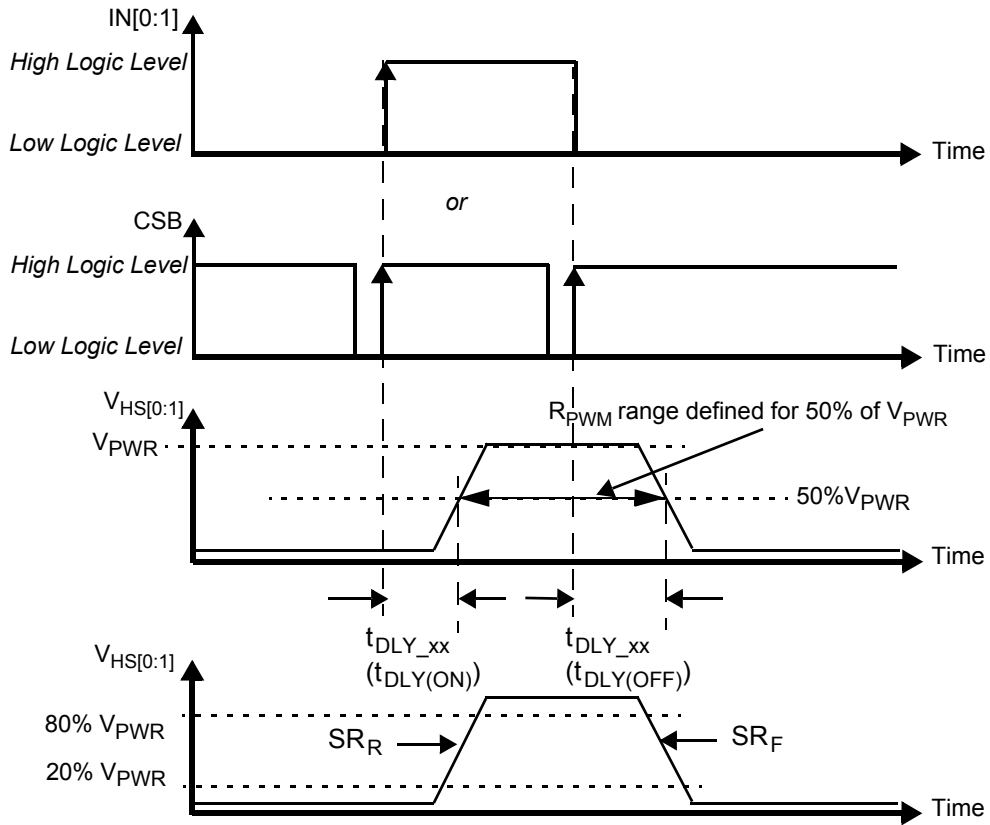
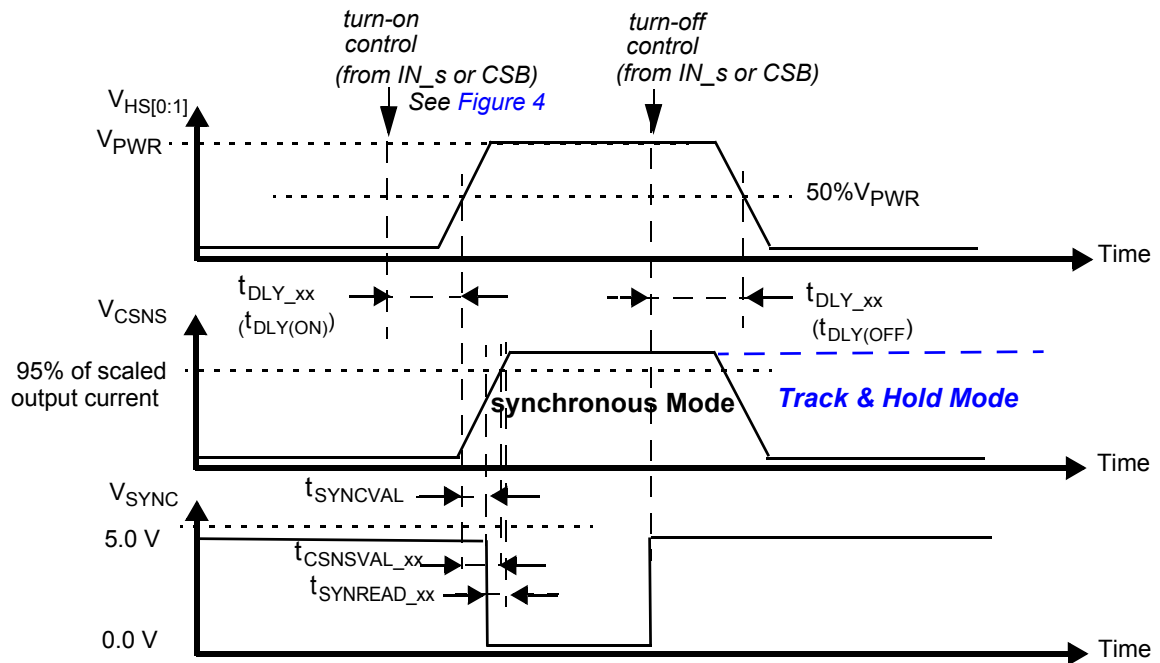

Figure 4. Output Voltage Slew Rate and Delay
Figure 9. Synchronous & Track-and-Hold Current Sensing Modes: Associated Delay & Settling Times
- Rising and Falling edge slew rates specified for a 20 to 80% voltage variation on a 10 Ω resistive load (see Figure 4).
- Time required to switch off the channel after detection of overtemperature (OT), overcurrent (OC), SC or UV error (time measured between start of the negative edge on the FSB pin and the falling edge on the output voltage until $V(\text{HS}[0:1]) = 50\%$ of V_{PWR}).
- Settling time ($= t_{CSNSVAL_XX}$), SYNC output signal delay ($= t_{SYNCVAL_XX}$) and Read-out delay ($= t_{SYNREAD_XX}$) are defined for a stepped load current using a 10 Ω resistive load for CSNS_RATIO_s = 0. (see Figure 9 and Output Current Monitoring \(CSNS\)).
The CS pin allows independent current monitoring of channel 0 or channel 1 up to the steady-state overcurrent threshold. It can also be used to sense the device temperature. The different functions are selected by setting bits CSNS1_en and CSNS0_en to the appropriate value (Table 22). When the CSNS pin is sensed during switch-off in the (optional) track & hold mode (see Figure 9), it outputs the scaled value of the load current as it was just before turn-Off. When several devices share the same pull-down resistor, the CSNS pins of devices, the current of which is not monitored, must be tri-stated. This is accomplished by setting CSNS0_en = 0 and CSNS1_en = 0 in their GCR register (Table 11). Settling time ($t_{CSNSVAL_XX}$) is defined as the time between the instant at the middle of the output voltage’s rising edge ($HS[0:1] = 50\%$ of V_{PWR}), and the instant at which the voltage on the CSNS pin has settled to $\pm 5.0\%$ of its final value. Anytime an overcurrent window is active, the CSNS pin is disabled (see Overcurrent Detection on Resistive and Inductive Loads). The current and temperature sensing functions are unavailable in Fail-safe mode and in Normal mode when operating without the V_{DD} supply voltage. In order to generate a voltage output, this pin requires a pull-down resistor ($R(CSNS)=1.0\text{ k}\Omega$ typ. and $470 < R(CSNS) < 10\text{ k}$). When the current sense resistor connected to the CSNS pin is disconnected, the CSNS voltage is clamped to $V_{CL(CSNS)}$. The CSNS pin can source currents up to about 5.6 mA.
To synchronize current sensing with an external process, the SYNC signal can be connected to a digital input of an external MCU. An open-drain pull-down on SYNC indicates that the current sense signal is accurate and ready to be read. The current sense signal on the CSNS pin has the specified accuracy $t_{SYNREAD_XX}$ seconds after the falling edge on the SYNC pin (Figure 9) and remains valid until a rising edge is generated. The rising edge that is generated by the SYNC pin at the turn-OFF instant (internal or external) may also be used to implement synchronization with the external MCU. Parameter t_{SYNVAL_XX} is defined as the time between the instant at the middle of the output voltage rising edge ($HS[0:1] = 50\%$ of V_{PWR}), and the instant at which the voltage on the SYNC-pin drops below 0.4 V (V_{SOL}). The SYNC pins of different devices can be connected together to save micro-controller input channels. However, in this configuration, the CSNS of only one device should be active at a time. Otherwise, the MCU is not be able to determine the source of the SYNC signal. The SYNC pin requires an external pull-up resistor to V_{DD} .